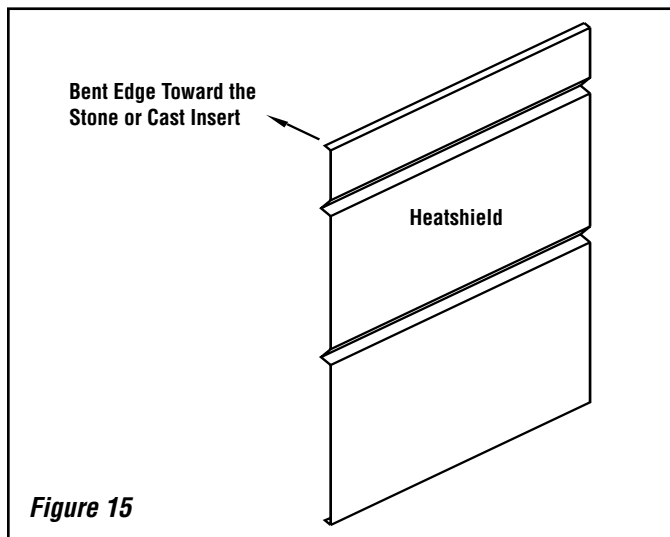

Figure 15
3. Slide the cast iron or stone side inserts (size 15.5" x 10.5") (with the desired surface facing out) in behind the lower retaining bracket E. See **Figures 15, 16 and 17**. Note that the cast iron inserts are reversible - both sides have different designs.
4. Slide the heatshield (with the bent edges toward the cast or stone inserts - **Figure 15**) in between the cast or stone insert and the lower retaining bracket E.